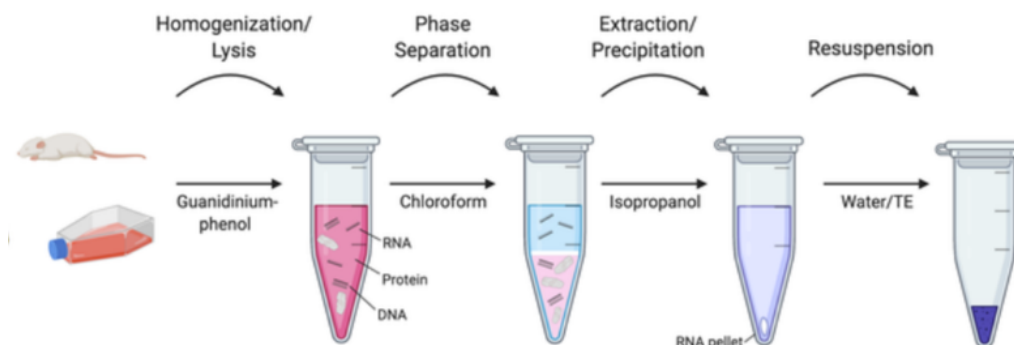

Figure 2: Schematic of the different steps in RNA extraction (taken from Addgene: <https://www.addgene.org/protocols/kit-free-rna-extraction/>)
- RNA extraction (see Figure 2)**